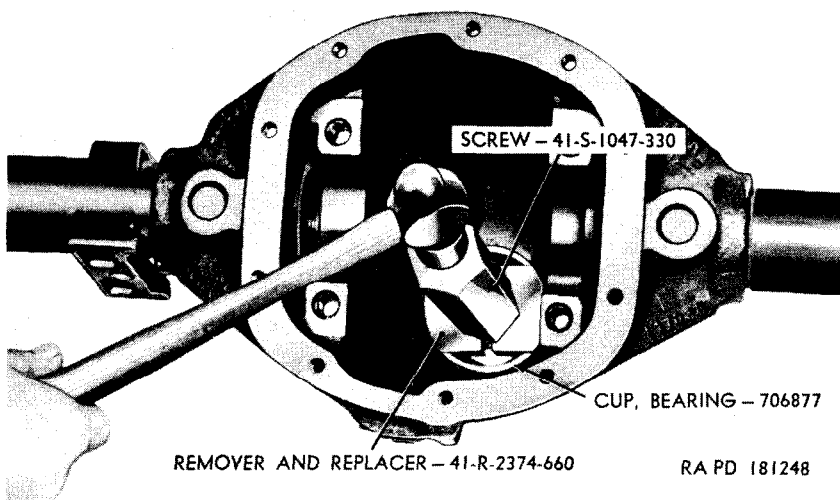

Figure 112. Installing front axle drive pinion inner bearing cup.
- (3) Install drive pinion inner bearing cup with remover and replacer 41-R-2374-660 and screw 41-S-1047-330 (fig. 112). Be sure to install the drive pinion inner bearing shim (Q, fig. 108) beneath bearing cup before driving bearing cup in place.